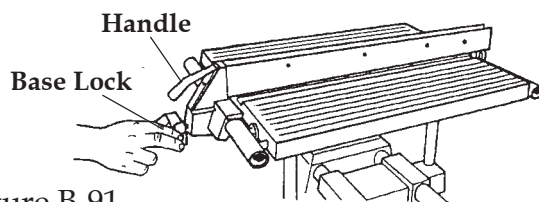

Figure B-91
70. Lock both the base lock and the handle. See Figure B-91.